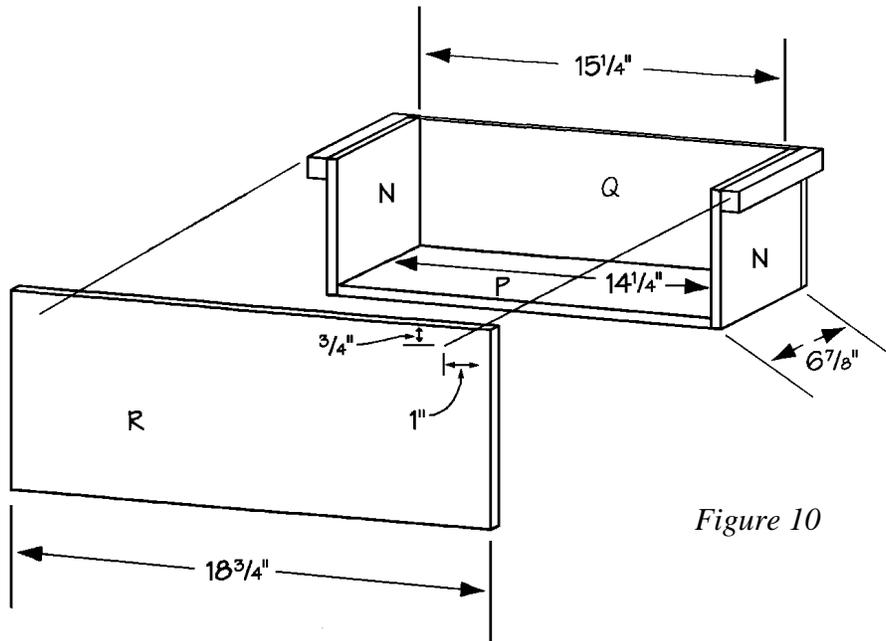

Figure 10
- Repeat Step 3 to attach the remaining drawer glide (O) to the other drawer side (N). The 3/8" extension should be a mirror image of the one in Step 3.
- Cut one drawer bottom (P) from 3/8" exterior plywood, measuring 14-1/2 x 6-7/8 inches.
- Cut one drawer back (Q) from 3/8" exterior plywood, measuring 15-1/4" x 5".
- Assemble the drawer bottom (P), drawer sides (N), and drawer back (Q), as shown in *Figure 10*, fitting the drawer back (Q) over the ends of the sides (N), and the drawer bottom (P) flush with the bottom edges of the drawer sides (N). Nail through the drawer sides (N) and drawer back (Q) into the edges of the drawer bottom (P). Use 1"-long finishing nails spaced about 3" apart.
- Cut one drawer front (R) from 1 x 8 pine, measuring 18-3/4" long.
- Rout the edges of the drawer front (R) with a round-over bit (optional) or simply sand the edges to slightly round them.
- Attach the drawer front (R) to the drawer assembly. Center the drawer front (R) so that it is 3/4" above the drawer assembly at the top and extends 1" beyond each of the drawer glides (O), as shown in *Figure 10*. Nail through the drawer front into the ends of the drawer sides (N), drawer bottoms (P), and drawer glides (O), using 1-1/2"-long finishing nails. Use two nails on each joint.